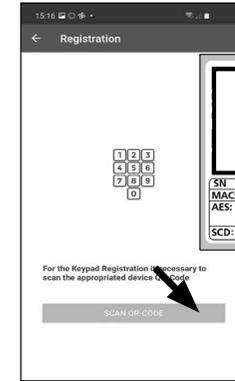

Fig. 10
⑧ Tap on "SCAN QR-CODE" (Fig. 10). You may be asked to confirm the app's access to the camera. The camera's picture window will then open (Fig. 11). Scan the QR code.